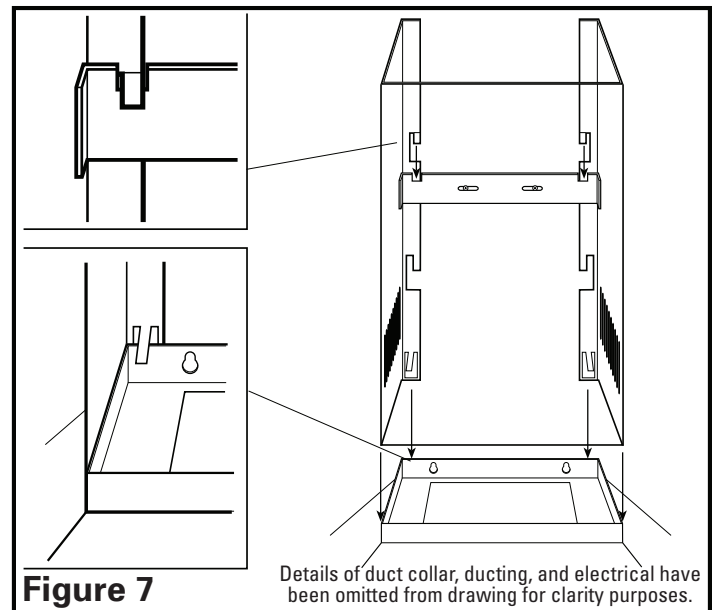

Figure 7
- Slide chimney in place so top tabs of the chimney are secured in place on the indents of the vertical chimney bracket and the backside of the chimney fits between the hood and the wall with the bottom tabs overlapping the back lip of the hood (**Figure 7**).